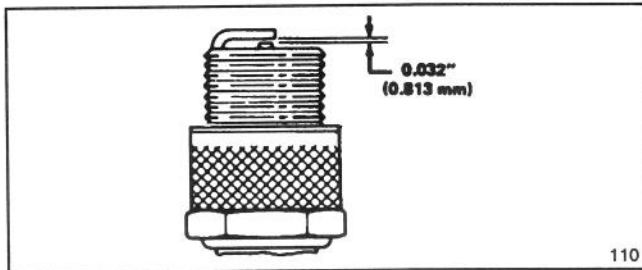

Figure 17
3. Set air gap at 0.032" (0.81 mm) (Fig. 17). Install correctly gapped spark plug and gasket seal. Tighten plug firmly to 10 ft-lb (13.6 N-m).